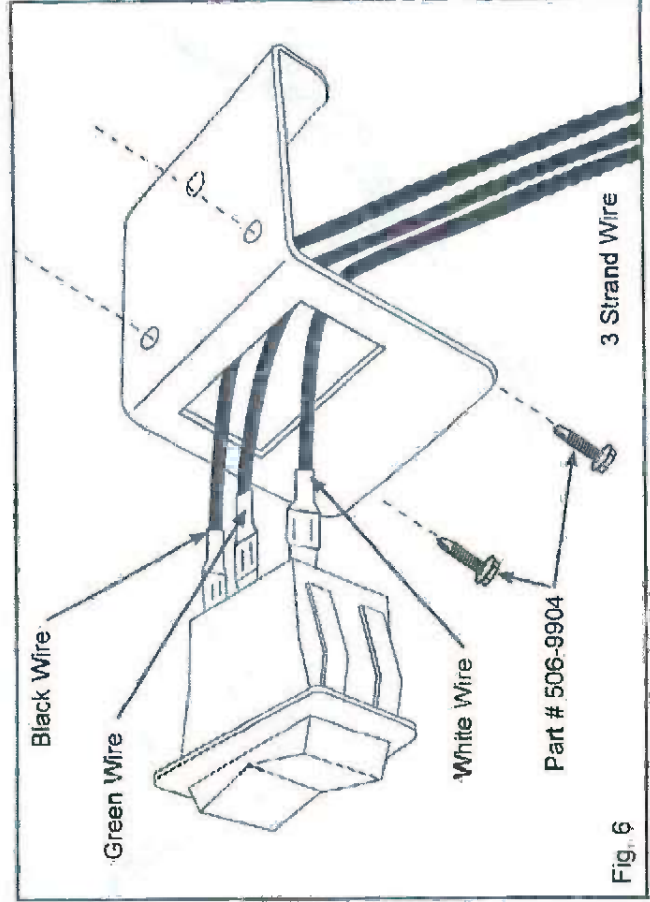

Fig. 6
- B. Strip wire in cab about 1/4" and attach push on connectors (part # 514-0321) and crimp (Fig. 6).
- C. Pull wire through Switch Bracket (part # 514-9954) (Fig. 6).
- D. Attach wire to Rocker Switch (part # 514-0117) (Fig. 6).